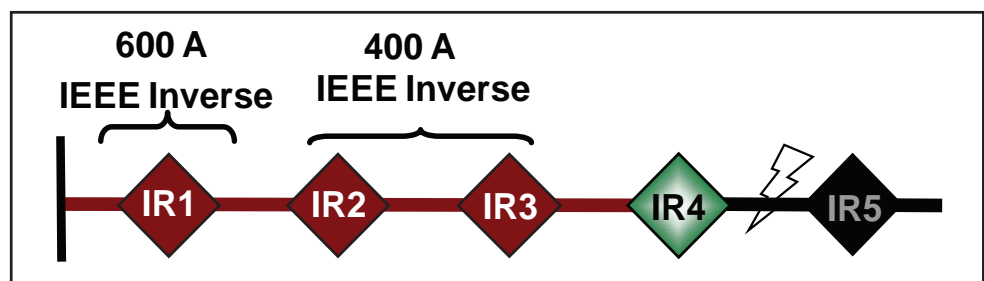

Figure 26. CEC permanent fault; IR2 and IR3 return to the fast CEC curve.
- IR2 and IR3 change back to the original CEC fast curve. See Figure 26 on page 44.